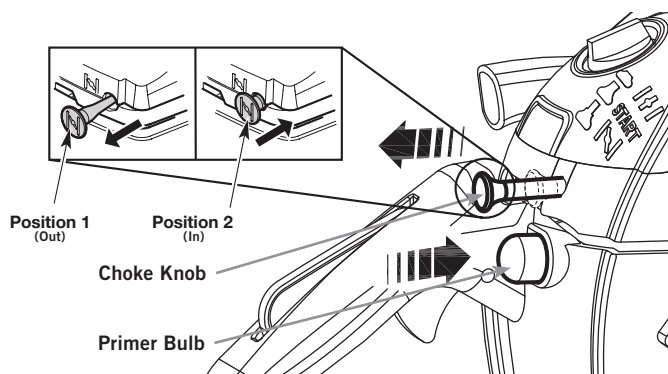

Fig. 4
6. Slowly press and release the primer bulb 4 times (Fig. 4). If fuel cannot be seen in the primer bulb, press and release the primer bulb until fuel is visible.
7. Pull the choke knob out to Position 1 (Fig. 4).
11. If unit does not start, DO NOT touch the throttle control. Push the choke knob in to Position 2 (Fig. 4).